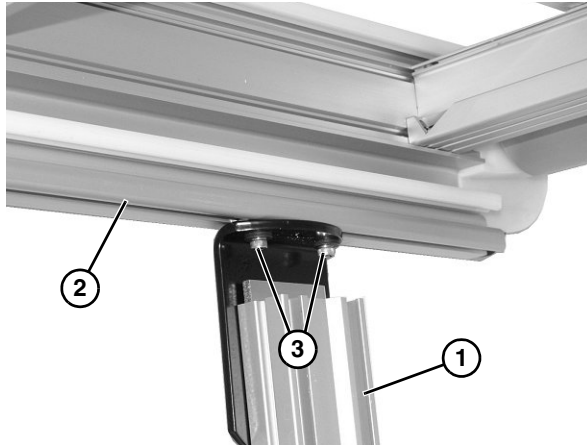

Figure 13
2. Attach stands (Figure 13, item 1) to the bottom of the conveyor frame (Figure 13, item 2). Tighten socket head screws (Figure 13, item 3), on each side, to secure in place.